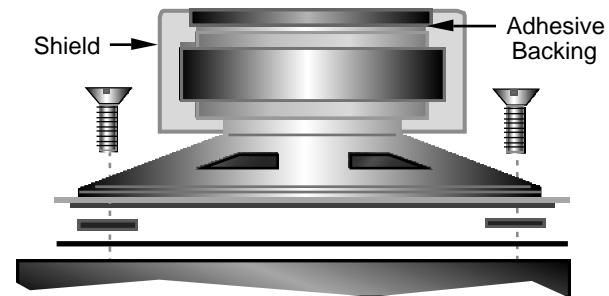

Figure 35
- Place the speaker on top of the grille cloth and fibre washers (Figure 35). Align the speaker frame with the front and side edges of the heat sink. **The speaker terminals should face the front, as shown in Figure 33 (previous page).**
- Secure the speaker using 4-40 x 3/16" (4.8 mm) **black, flat head** screws (Figure 35.) Do not use lock washers.
- Locate the speaker shield. Remove the backing from the self-adhesive pad inside the shield (Figure 35). Install the shield over the speaker magnet, keeping it approximately centered.